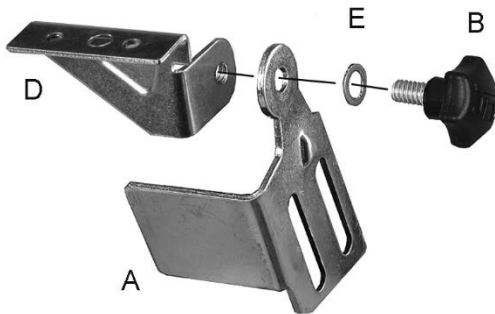

Figure 5-2: bracket to spark guard
Refer to Figure 5-2.
Note: Spark guard (A) and eye shield bracket (D) are marked L for left side assembly. Assemble the spark guard and eye shield bracket using Figure 5-2 as a guide.